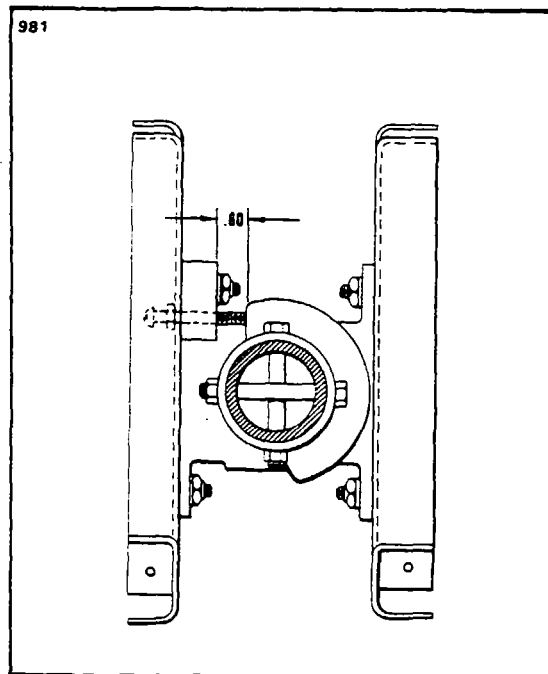

Figure 5-17. Flap Step Adjustment
- c. To adjust the flap up stop and step lock, loosen the jam nut of the right torque tube stop screw, located in the floor opening along the outer end of the flap torque tube, and turn the stop screw to obtain approximately .60 of an inch between the stop fitting and the bearing block as measured along the top side of the screw. (Refer to Figure 5-17.) It may be necessary to loosen the adjustment screw of the left stop.